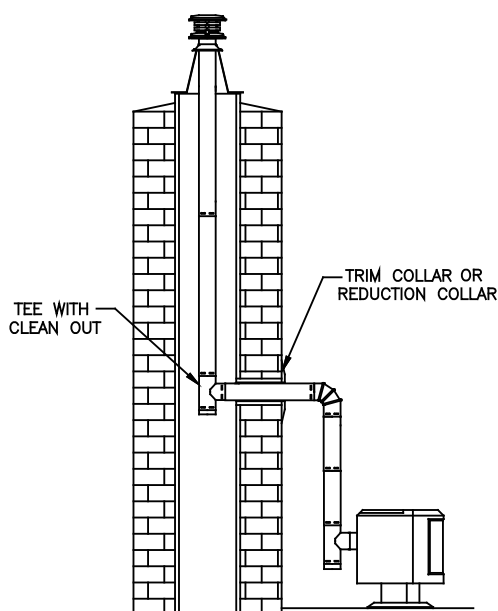

Figure 26
B. A Tee Section is installed at the bottom end of the vertical pipe (**Figure 26**).